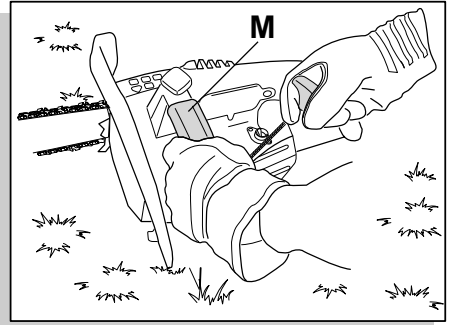

fig. 10
a) FORHÅNDSJUSTERING AF TOMGANGSDYSESKRUE L (fig. 10)
b) FORHÅNDSJUSTERING AF FULDGASDYSESKRUE H (fig. 10)
d) JUSTERING AF GASSPJÆLDET MED TOMGANGSSKRUE T (fig. 10)